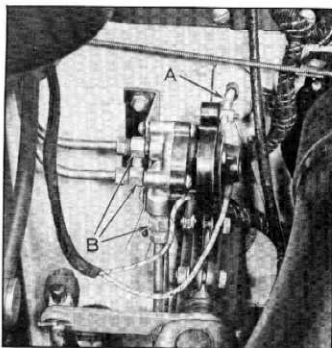

Fig. 54—Top Operating Valve
2. Disconnect control rod "A" by loosening set screw at operating valve under the hood on the left hand side of the cowl (fig. 54).